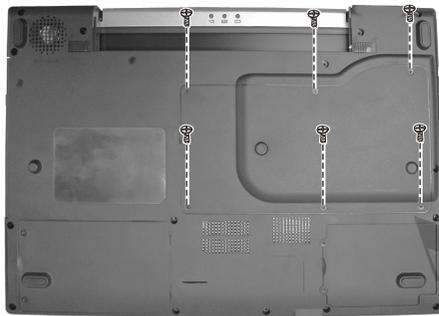

Figure 2-15 Remove the cover
2. Remove six screws fastening the DDR compartment cover to access the SO-DIMM socket. (Figure 2-15)